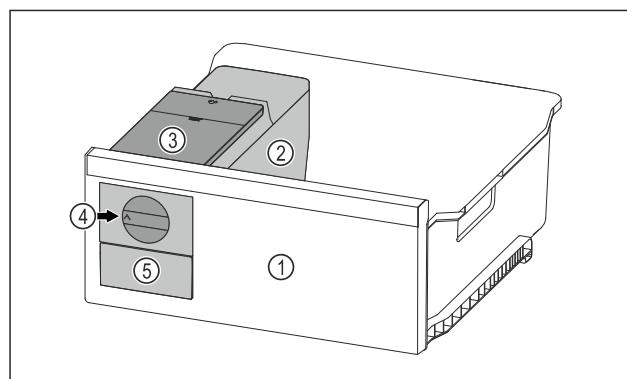

Fig. 70 Example illustration
► Turn the rotary knob Fig. 70 (4) clockwise as far as it will go.
- Ice cubes fall from the ice cube tray into the ice cube drawer Fig. 70 (5).